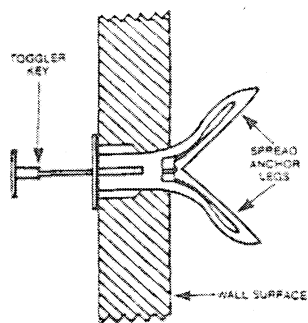

FIGURE 4
01.23 Insert a togger key into the small hole in the neck of the fastener, as shown in Figure 4. This should cause the anchoring legs to "pop" open. Even if the mounting surface is too thick to permit the legs to open fully, adequate support for the EPSA should be provided when the screws are in place. Remove the togger key.